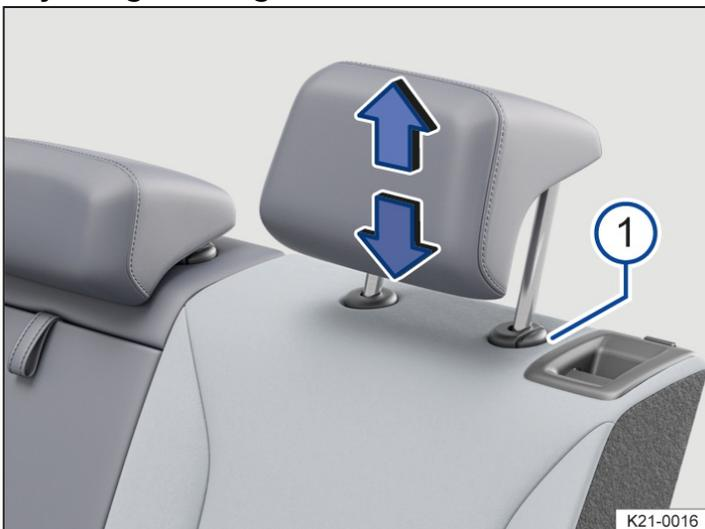

Fig. 2 Adjusting a rear head restraint (illustration).
1. While pressing the button → Fig. 2 **1** if necessary, push the head restraint up or down in the direction of the arrows.